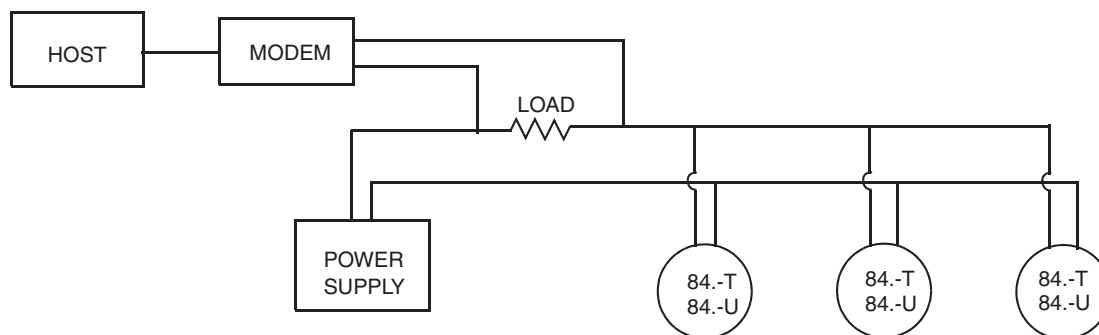

Figure 22. Typical Multidrop Network
Figure 22 shows a typical multidrop network. Do not use this figure as an installation diagram. Contact the HART Communications Foundation, (512) 794-0369, with specific requirements for multidrop applications.